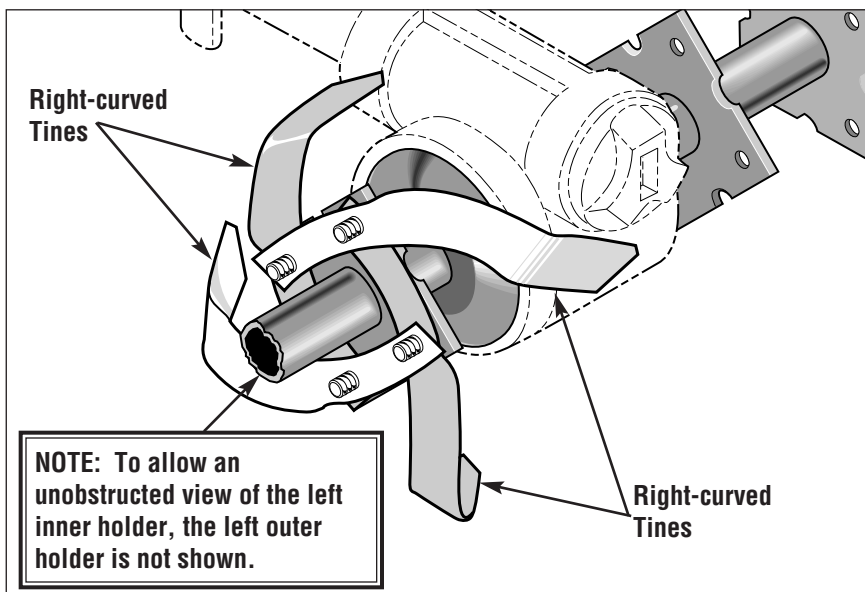

Figure 12: Installing tines on left inner tine holder.
A. Begin installing new tines on the left inner holder. See Figure 12.
B. Carefully place two *right-curved* tines (shown shaded in Figure 12) *opposite* each other on the previously installed bolts. Make sure that tines are positioned as follows:
C. Place two more *right-curved* tines (shown partially shaded in Figure 12) *opposite* each other on the bolts, overlapping the tines installed above in Step 1-B. Make sure that the tines are positioned as follows: